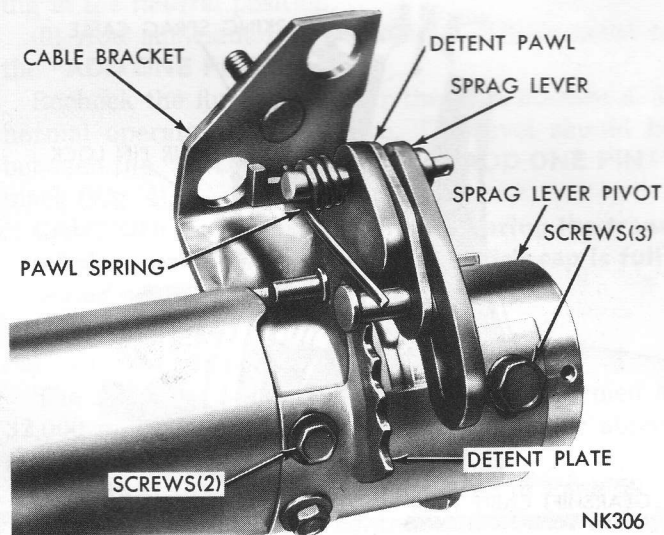

Fig. 11—Lower End of Column—Assembled View
(7) Remove the pawl spring (Fig. 11). Remove three